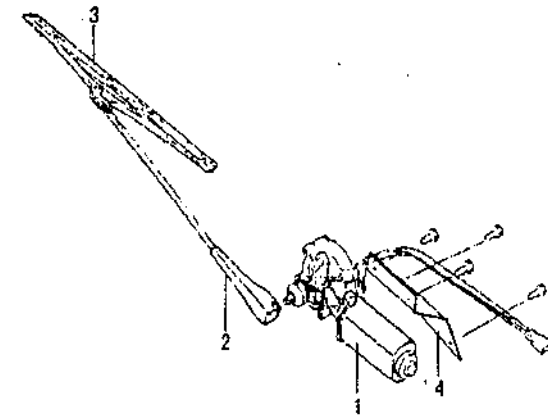

Figure 6.4-7
(1) For basic structure see Figure 6.4-7.
(2) Operation of rear window wiper